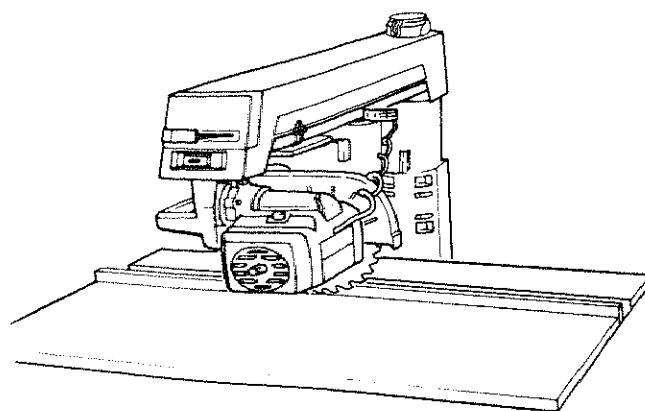

Fig. 75 - In-rip Position
3. Make sure that the lower edge of the *guard* is parallel to the *table*. (Figure 75)
5. Unlock the *swivel lock* and turn the *motor* to the in-rip position, with the *blade* between the *motor* and the *fence*. (Figure 75)